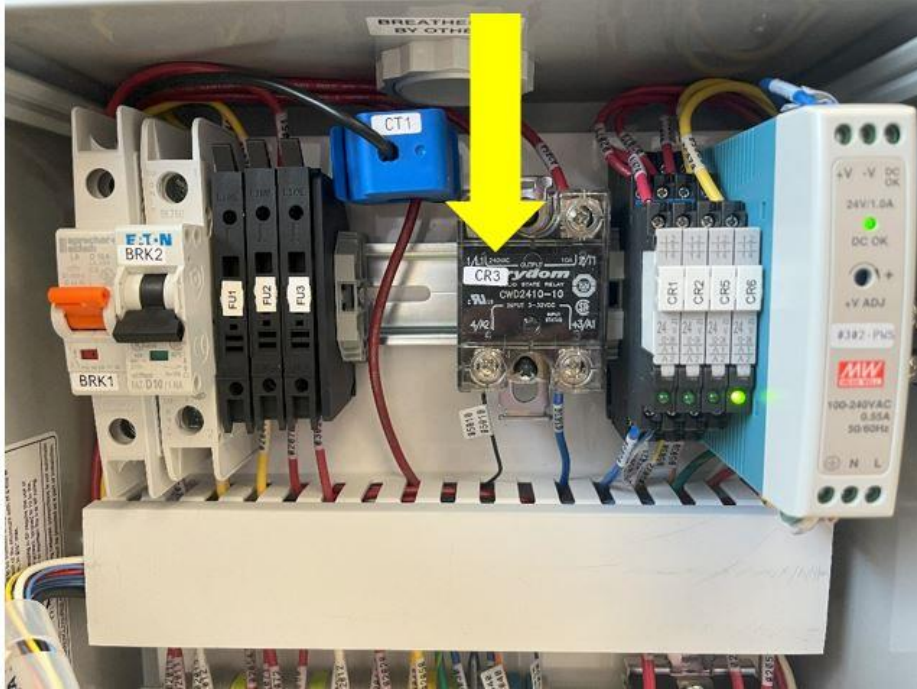

Figure 9-4: Vacuum Pump Solid State Relay
4. Find the Vacuum Pump solid-state relay (see **Figure 9-2, item #19**) and note the wire numbers and locations. **See Figure 9-4.**
5. Using a screwdriver, remove the four wires from the four terminals. **See Figure 9-4.**
- See Figure 9-4.
3. Reinstall the wires to the appropriate contacts. The bottom VDC wires must be installed as shown in **Figure 9-4** because of polarity.